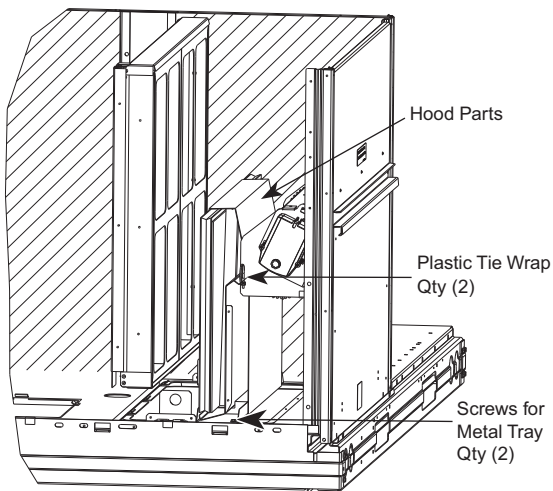

Fig. 11 — Economizer Hood Parts Location
3. Locate the (2) screws holding the metal tray to the basepan and remove. Locate and cut the (2) plastic tie-wraps securing the assembly to the damper. (See Fig. 11.) Be careful to not damage any wiring or cut tie-wraps securing any wiring.